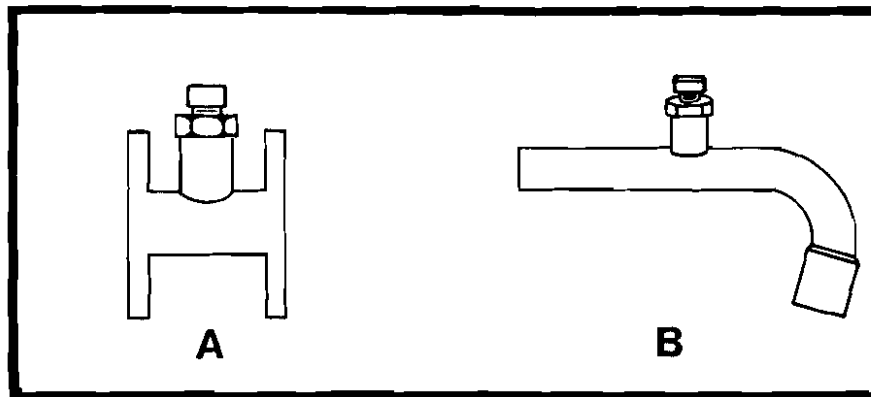

FIGURE 81-20-00. FIXED ORIFICE WASTEGATE.
Special Instructions for the TSIO-520-T: Early engines used an exhaust system bypass valve "A" as shown in Fig. 81-20-00. Current production engines use the bypass valve "B" as shown in Fig. 81-20-00. The bypass valve is installed in the exhaust system just forward and to the right of the turbocharger.
A. If the exhaust bypass valve "A" is as shown in Fig. 81-20-00, adjust the bolt all the way in turning in a clockwise (CW) direction and reposition 2 turns out turning in a counterclockwise (CCW) direction. Lock in place with check nut. Run engine to check full throttle manifold pressure. Make fine adjustments required to meet the curve at the end of this section, CW to increase, CCW to decrease. Safety wire when complete.
B. If the exhaust bypass valve "B" is as shown in Fig. 81-20-00, adjust the bolt all the way (CW) and reposition 8½ turns out (CCW). Lock in place with check nut. Run engine to check full throttle manifold pressure. Make fine adjustments required to meet the curve at the end of this section, CW to increase, CCW to decrease. Safety wire when complete.
The hydraulic wastegate consists of either a butterfly or poppet type bypass valve located in the turbine exhaust ducting. Both type wastegate valves are controlled by a spring loaded hydraulic wastegate actuator. The actuator is operated by engine oil pressure. The hydraulic wastegate actuators consist of a movable piston and spring. Engine oil pressure against the piston will close the wastegate increasing turbocharger turbine speed. As oil pressure against the piston is reduced, the spring will open the wastegate, reducing turbocharger turbine speed. (See Fig. 81-20-00 Hydraulic Wastegate). The oil pressure operating the wastegate actuator is controlled by a wastegate controller. The hydraulically actuated wastegate systems also use an overboost pressure relief valve as a precautionary measure.